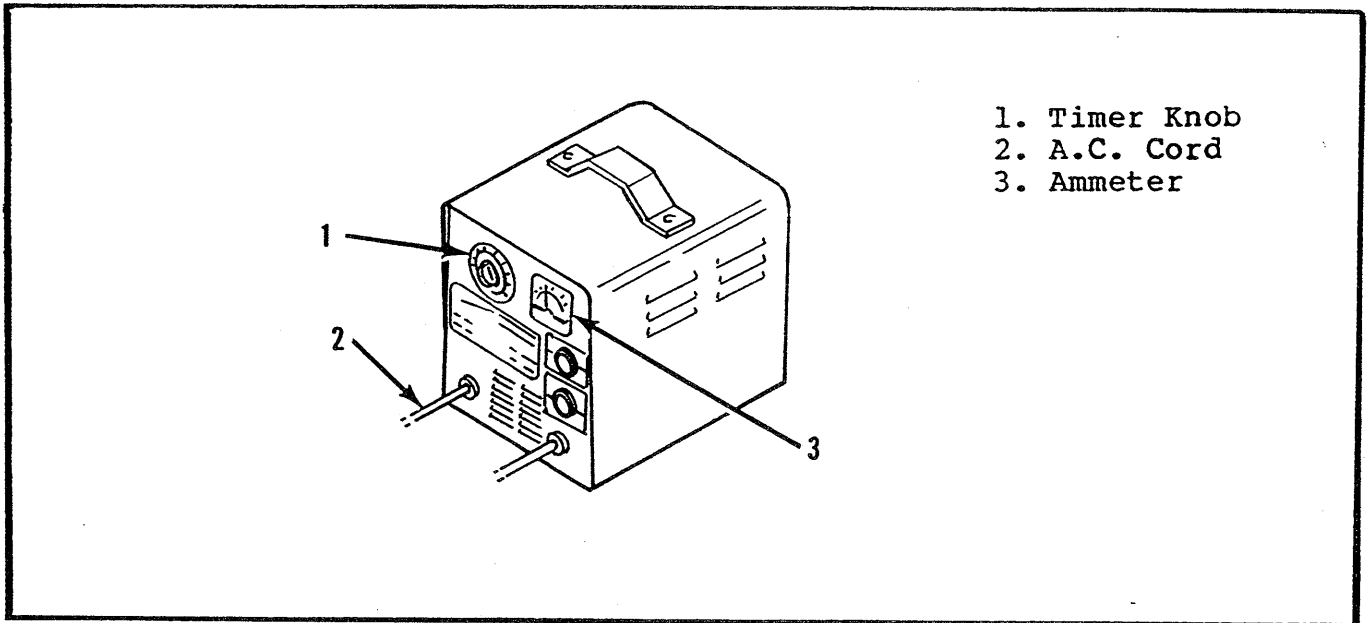

Figure 5-4. Battery Charger
(2) Batteries and cables should be inspected periodically for signs of cracks in the cases, electrolyte leakage and corrosion of the terminals. Inspect cables for worn spots or breaks in the insulation and for broken cable terminals.
(3) Clean batteries which show signs of corrosion at the terminals, or onto which electrolyte has overflowed during charging. Use a baking soda or ammonia solution to clean the batteries, taking care not to get the solution inside the cells. Rinse thoroughly with clear water. Clean battery and cable contact surfaces to a bright metal finish whenever a cable is removed.
b. Battery Charging (See Figure 5-4).
(1) Charge batteries at end of each work shift or sooner if batteries have been discharged.